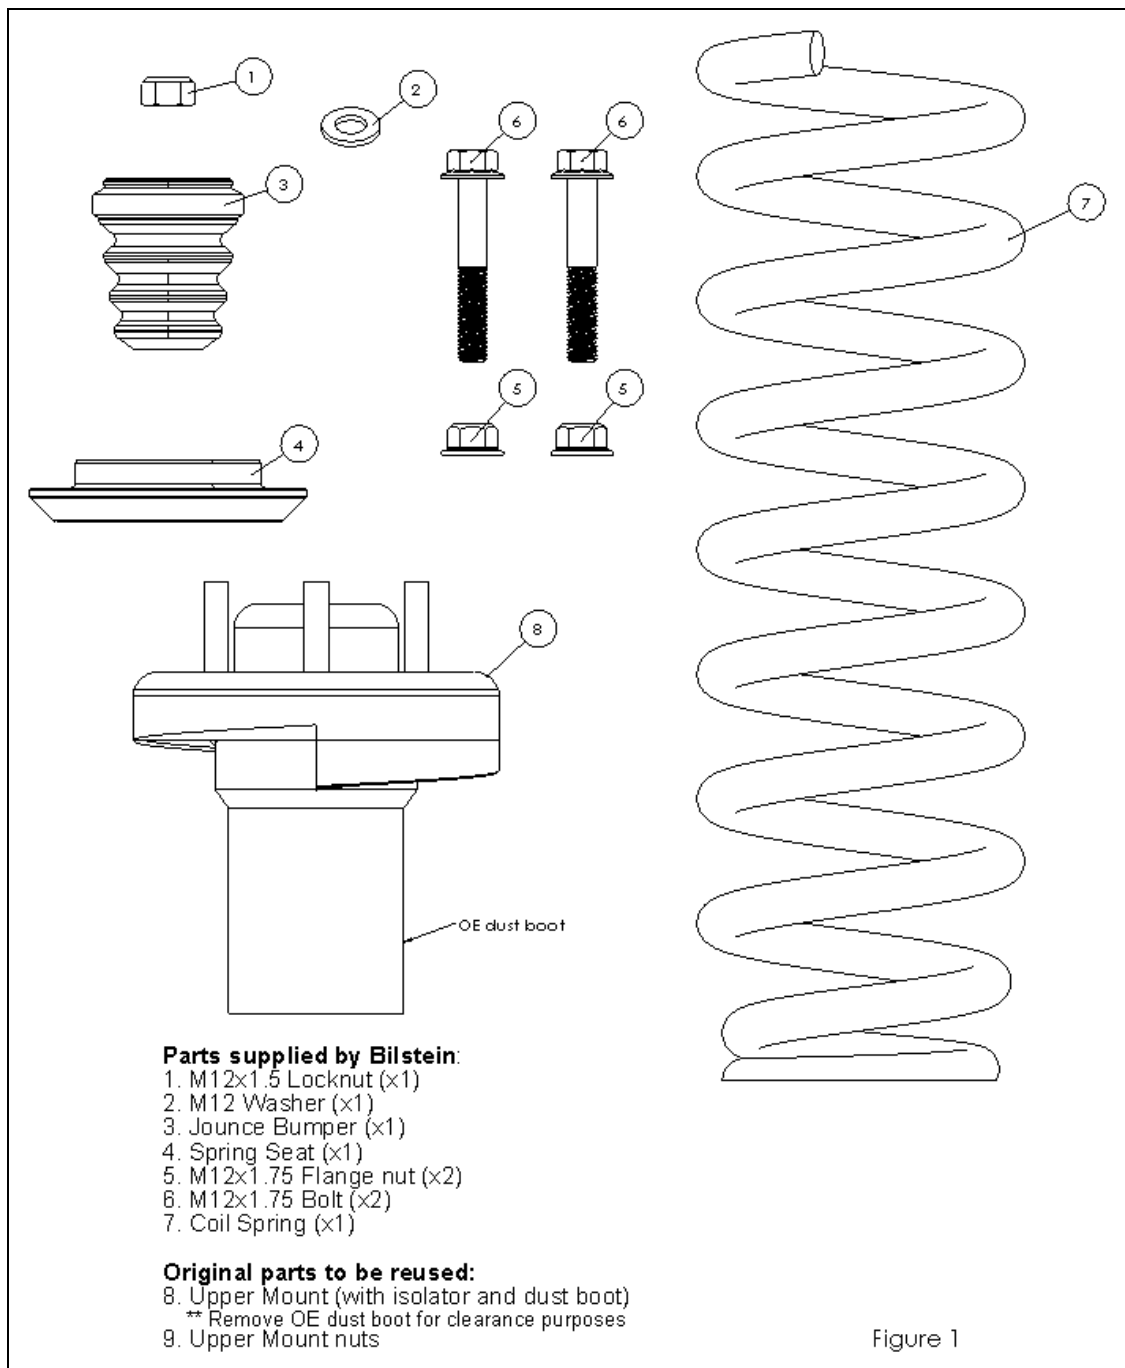

Figure 1
- C. Refer to Figure 1 to identify which original parts must be re-used.